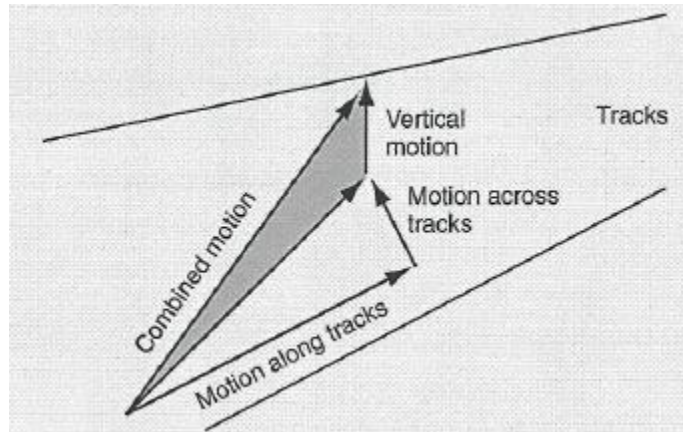

**Figure 2.3: Two-Dimensional Vector Addition**
- 2-12 You can figure out the motion as shown in Figure 2.3. One arrow shows the motion of the hook along the tracks. The other shows the motion across the tracks. The combined motion—called the *resultant motion*—is shown by the hypotenuse of the triangle.
2-14 The same method works in three dimensions. For example, suppose the crane operator raises the hook in addition to moving the crane along the tracks and across the tracks. The hypotenuse of the triangle in Figure 2.3 then becomes one leg of a vertical triangle. The other leg is the vertical motion, as shown in Figure 2.4. The resultant of all three motions is represented by the hypotenuse, (labeled combined motion), in Fig. 2-4.